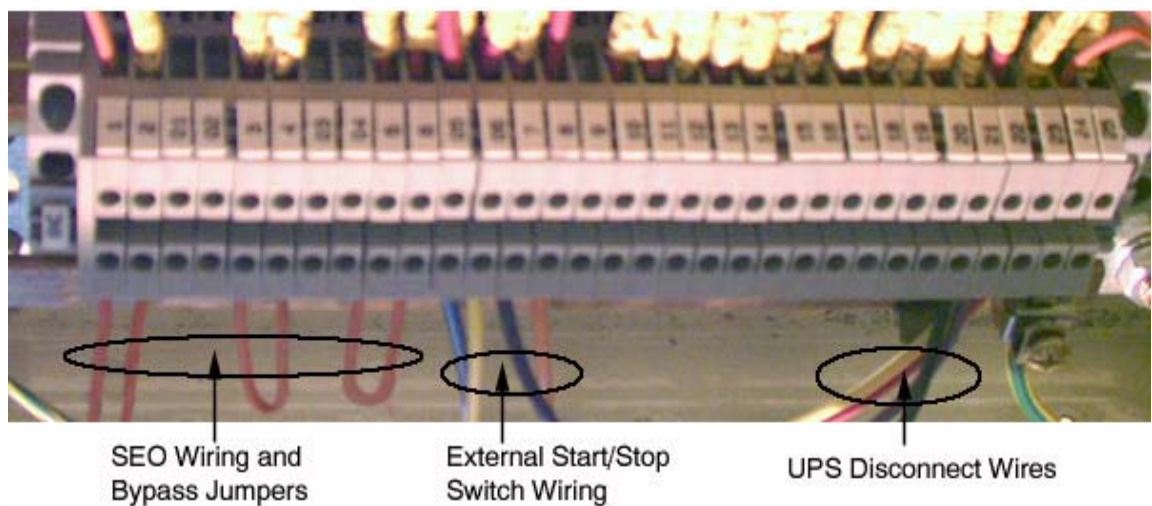

Figure 8-6 Model FCA190-A BNC Terminal Strip
Reference Figure 8-6 on page 52 for the following.
- 1.) The A1 panel can support up to 3 SEO's. Jumpers need to be installed in each unused SEO circuit for proper operation. Reference Figure 8-6 on page 52.
- 2.) The BNC terminal strip must be re-wired as follows. This configuration eliminates the need to cut wires allowing for easy conversion back to the original state if desired. Make sure you do not remove the wire tag identifiers for any reason. Reference Figure 8-6 on page 52.